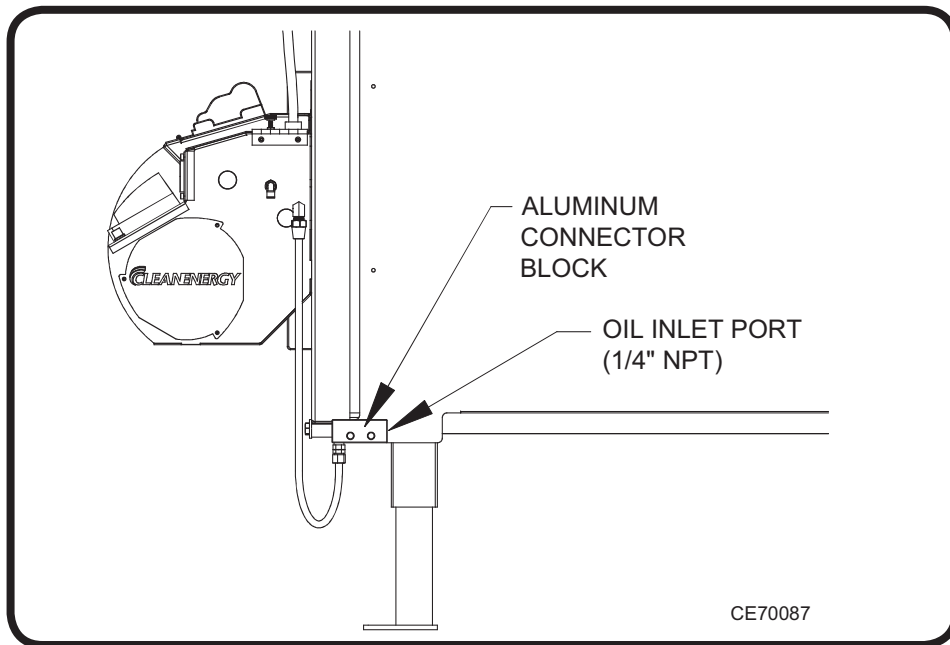

Figure 18: Connecting the Pressure Oil Line to the Connector Block
- (4) Refer to Figure 18.
- (5) Connect the pressure oil line to the aluminum connector block on the side of the boiler.